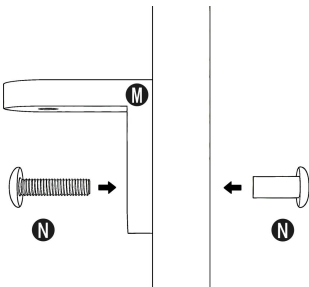

Figure 1
- Figure 1 shows the shelves not on the same layer, and Figure 2 shows the shelves installed on the same layer.